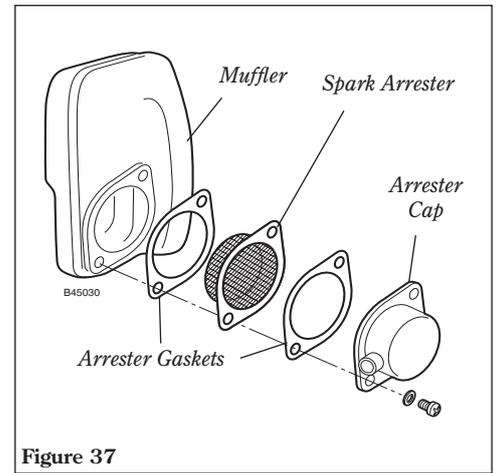

Figure 37
4. Remove arrester cap holding screws and the cap. See Figure 37.
6. Reinstall the spark arrester and gaskets as illustrated in Figure 37.